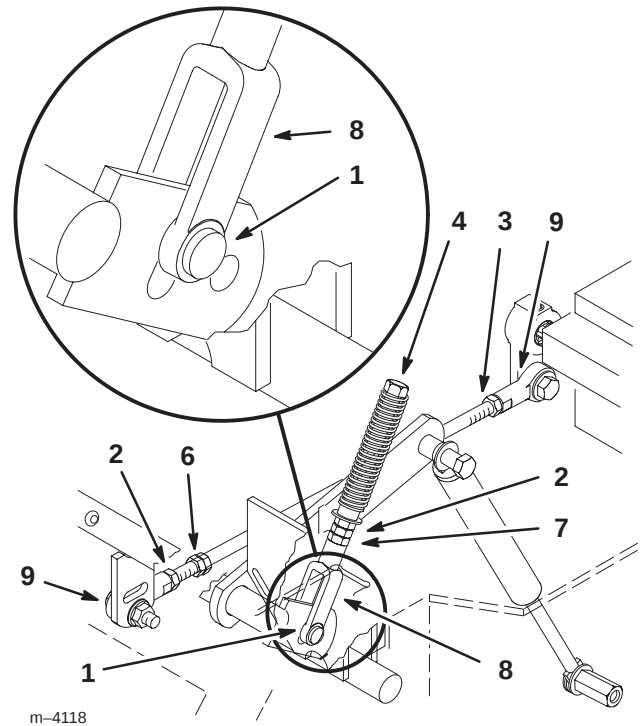

Figure 45
4. Pull lever back until the clevis pin (on arm below pivot shaft) contacts the end of the slot (just beginning to put pressure on the spring) (Fig. 45).
8. Tighten the nut and jam nut (Fig. 45).
6. If adjustment is needed, loosen the nut and jam nut against the yoke (Fig. 45).
1. Loosen the locknuts at the ball joints on pump control rod (Fig. 45).
3. Adjust pump rod length by rotating double nuts on rod, in the appropriate direction, until wheel is still or slightly creeps in reverse (Fig. 45).
6. Tighten the nuts at the ball joints (Fig. 45).